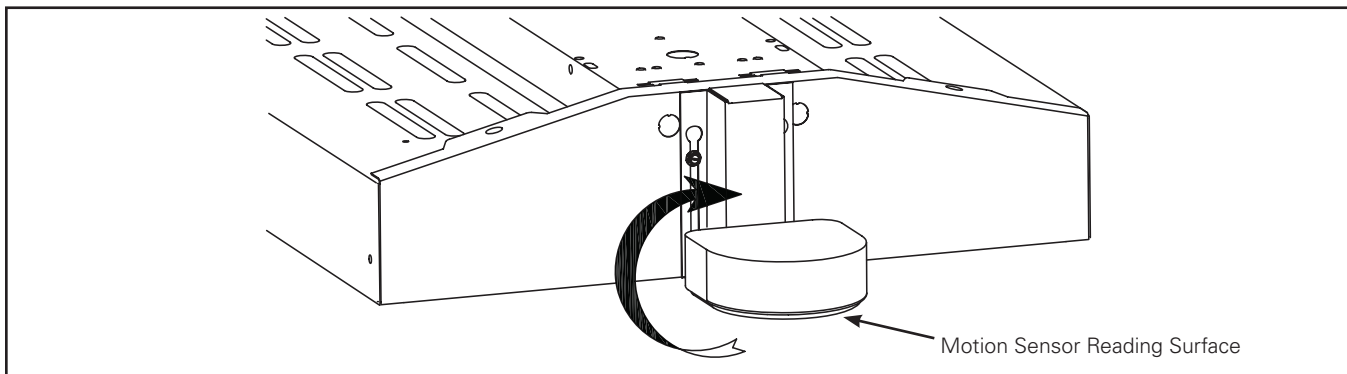

Figure 2.
2. Secure bracket by tightening screws on fixture endplate. (Figure 2.)
3. Rotate motion sensor reading surface (LENS) so that it is parallel with floor. (Figure 2.)